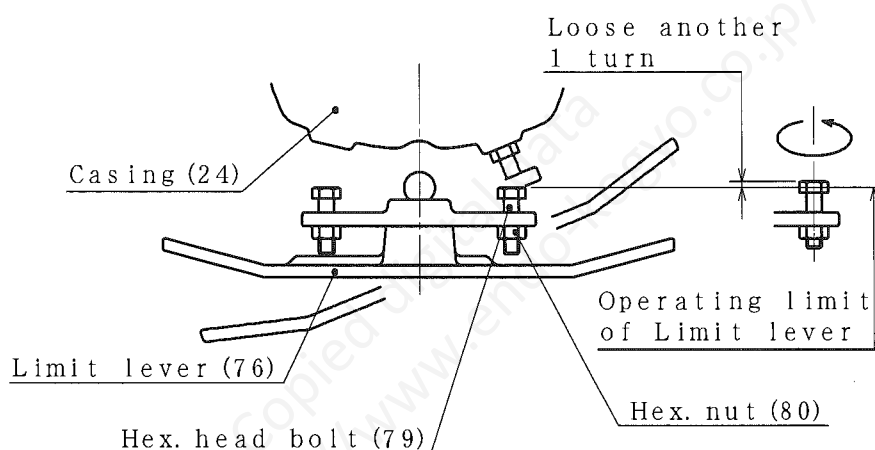

Fig. 6
- Air exhaust hole on Brake cylinder is clogged.	- Clean . See Chapter 8"2.(3) Inspection of Brake and Service Limit".
9. Adjust of Operating Limit of Control Lever (See Fig. 6)